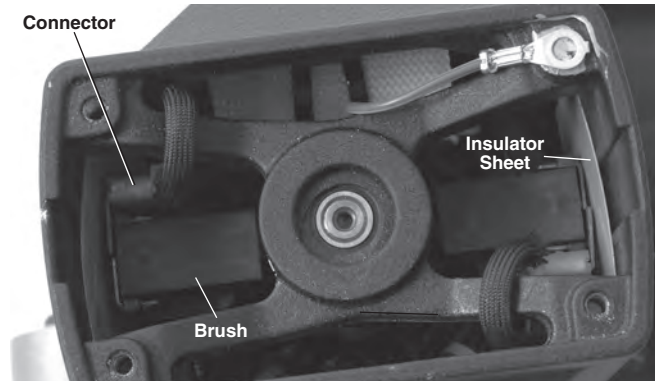

Figure 19 – Brush Placement - Motor Cover Removed
4. Using a pair of pliers, pull the motor brushes straight out. Detach the connector. (See Figure 19.)